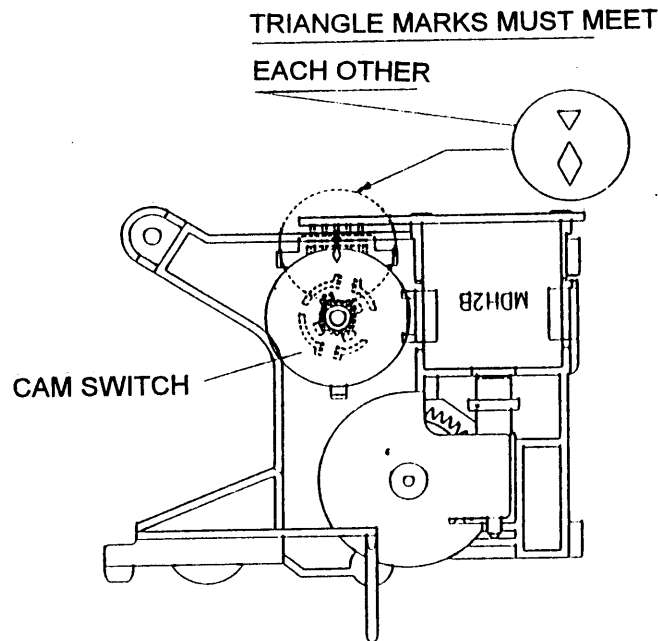

Fig. 4-3 DATUM POSITION OF CAM SWITCH TRIANGULAR MARKS
- c). When reassembling the L/C BRACKET TOTAL ASSEMBLY on the MAINBASE, make sure that the two triangular marks of CAM SWITCH are aligned with each other as shown in Fig. 4-3.